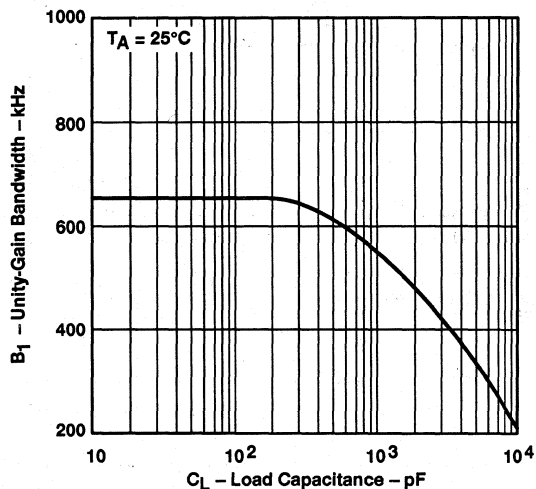
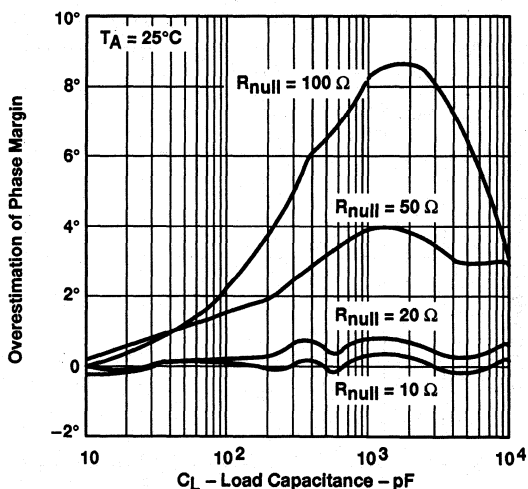

Figure 54
Figure 55
The unity-gain-bandwidth (UGBW) frequency decreases as the capacitive load increases (see Figure 54). To use equation (1), UGBW must be approximated from Figure 54.
Using equation (1) alone overestimates the improvement in phase margin as illustrated in Figure 55. The overestimation is caused by the decrease in the frequency of the pole associated with the load, providing additional phase shift and reducing the overall improvement in phase margin. The pole associated with the load is reduced by the factor calculated in equation (2).
Using these equations with Figure 54 and Figure 55 enables the designer to choose the appropriate output series resistance to optimize the design of circuits driving large capacitive loads.